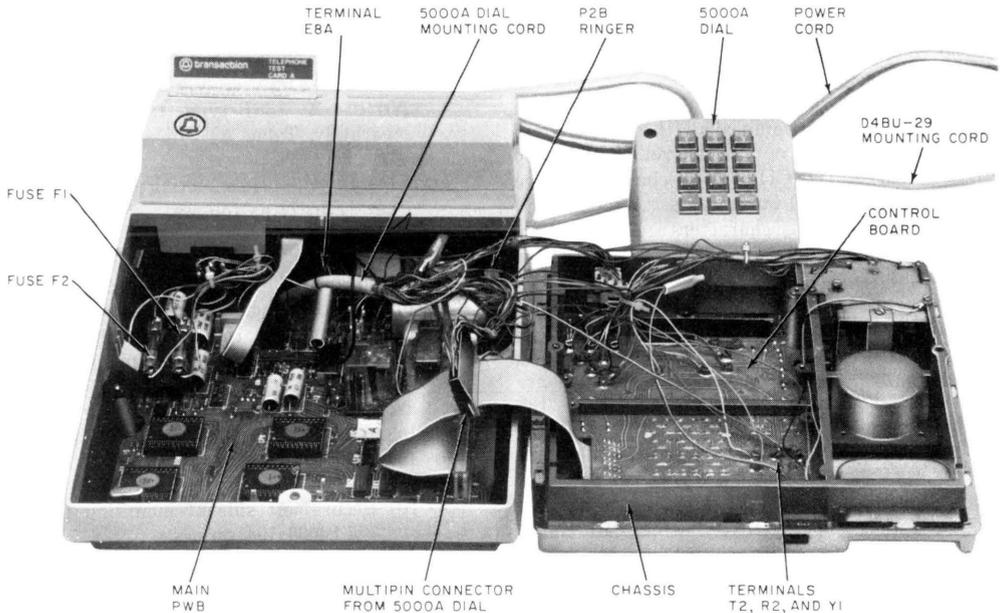

Fig. 5—5000AM Transaction I Telephone Set Base With Upper Housing and Chassis Laid Aside and 5000A Dial Connected
- (3) Lay the upper housing and chassis to the right, as shown by Fig. 5, without disconnecting any cables.
- (b) Secure left side of mounting plate with (2) 840694194 screws.
- (d) Secure right side of key using the other (2) 840694194 screws provided.
- (3) Install new 138B-type faceplate.
- (4) Open the set (3.07); lay the upper housing and chassis to the right (Fig. 5).
- (5) Hold the lower housing up on its side and feed the mounting cord of the dial through the cord entrance hole in the base pan. Using Fig. 5, make connections as follows: